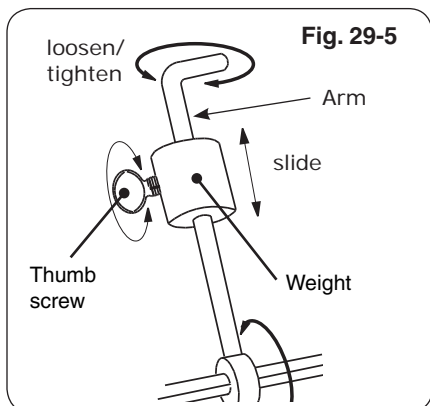
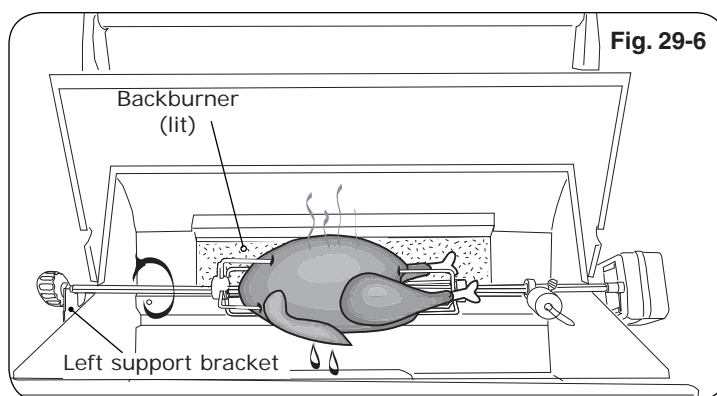

Fig. 29-5
Fig. 29-6
7. Slide the counterbalance weight up or down the arm until the rod rotates most evenly then tighten thumb screw (Fig. 29-5 and Fig. 29-6).